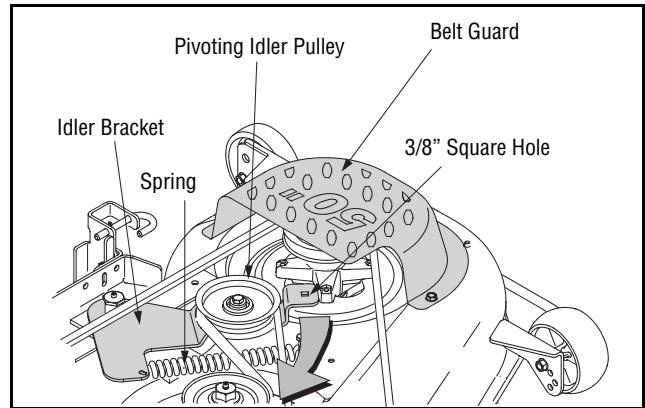

Figure 23
- Insert a 3/8"-drive ratchet wrench (set to *loosen*) into the square hole found in the idler bracket on the left side of the deck's surface. See Figure 23.